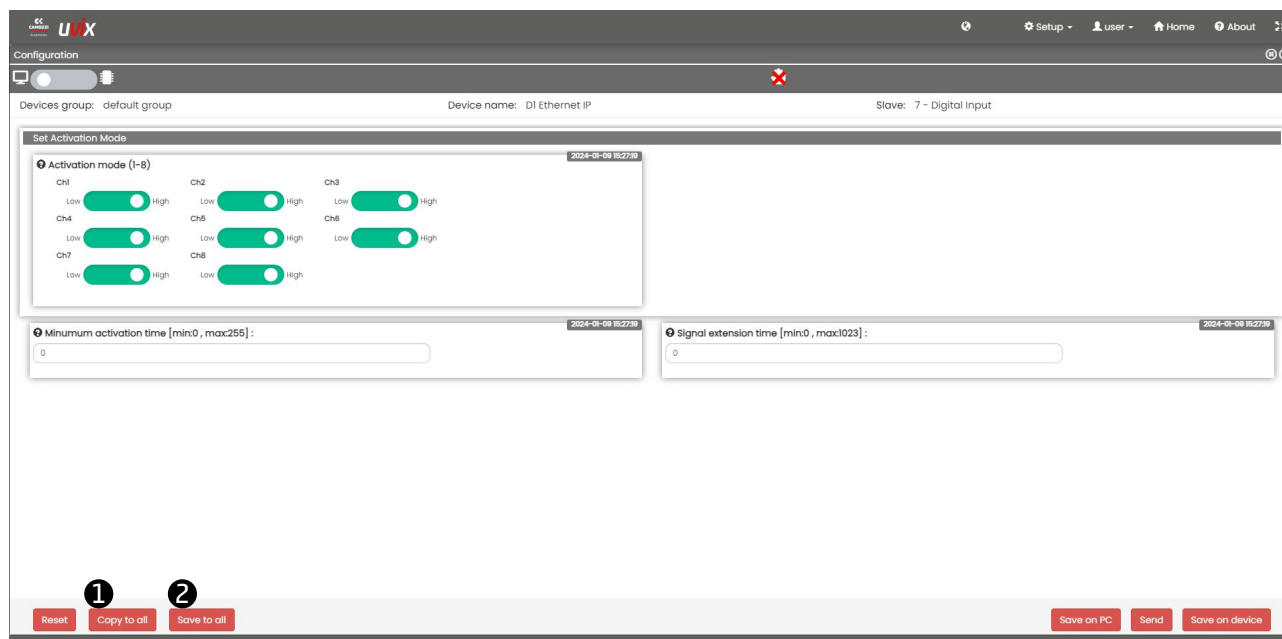

Figure 6.39: Example
2. Click on the "  Copy to all" command in the bottom-left section (Figure 6.39).
Finally, press the "🔒 Save to all" command in Figure 6.39 to save the new configurations permanently.